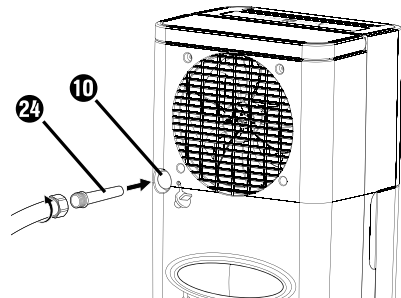

Fig. 5
- ◆ When using the EU garden hose adapter **24**, screw a garden hose onto the EU garden hose adapter **24** (see figure 5).